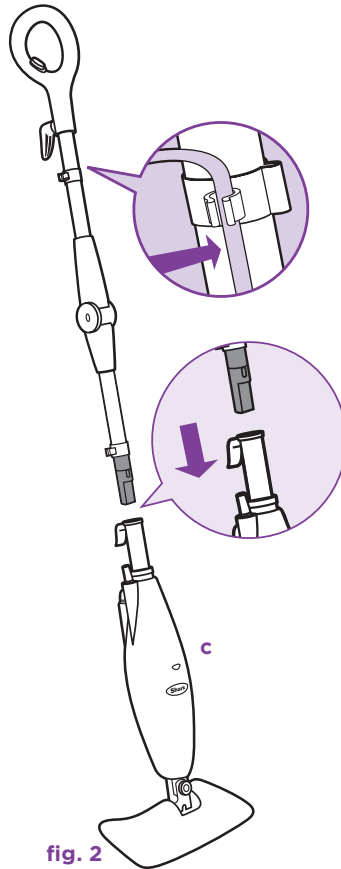

fig. 2
- 3 Take the assembled pole and insert it into the base of the mop (c). Align the notches and press gently until you hear it click into place. (fig. 2)